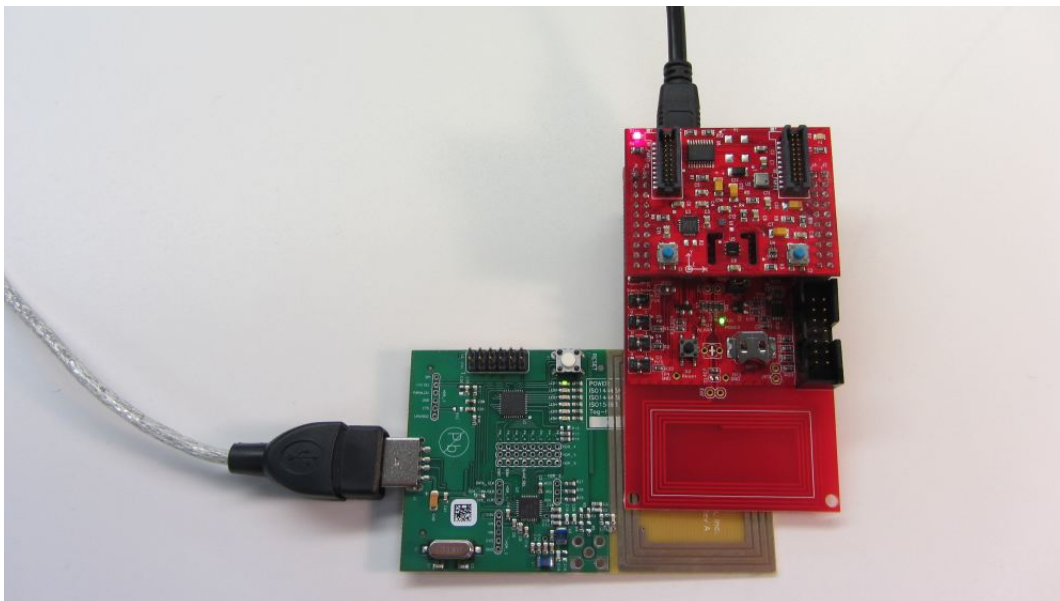

Figure 14. BoosterPack Configuration
3. Attach the Sensor Hub BoosterPack on top of the RF430FRL152HEVM. Make sure that the orientation is correct (see Figure 14).
5. Position the RF430FRL152HEVM antenna on the antenna portion of the TRF7970AEVM as shown in Figure 14. It is recommended to have an insulator between the two antennas or to hold them at a distance from each other to prevent any short circuits.